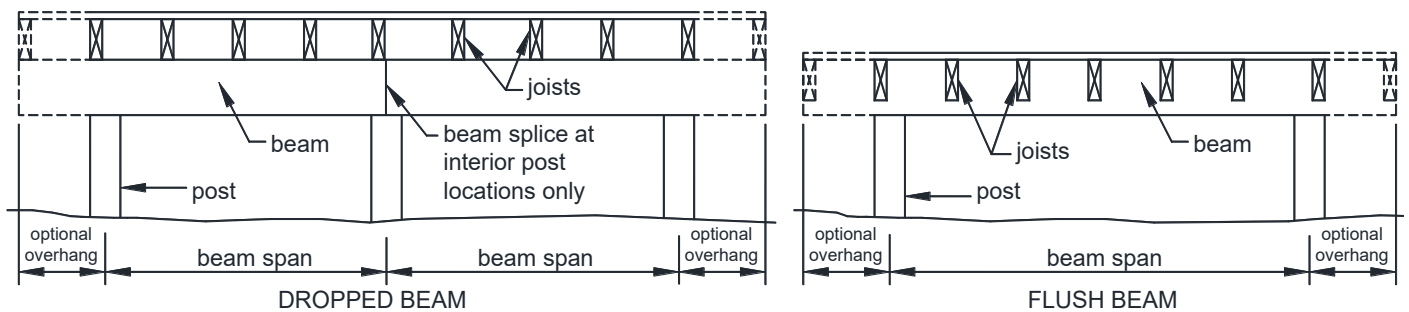

FIGURE 6: BEAM TYPES
- Dropped beams have joists bearing above; flush beams have joists with hangers bearing on their sides; see FIGURE 6.